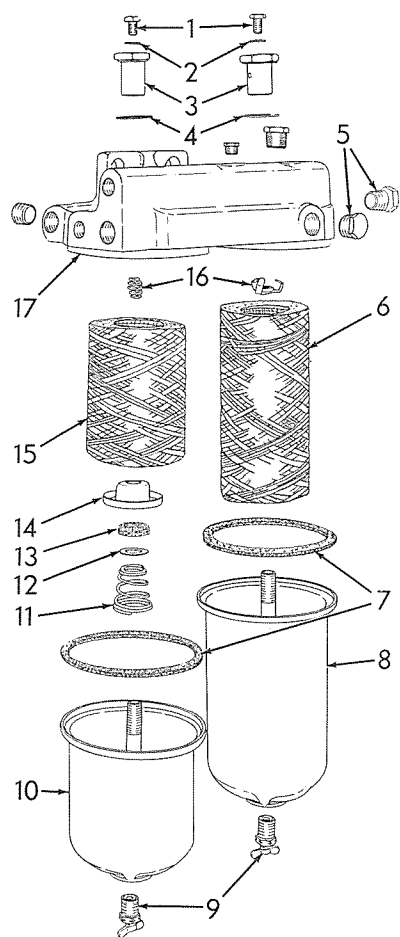

Fig. 5 — Fuel Filter Details
Loosen the vent screw (1) in top of second stage fuel filter shell retaining nut (2). Crank engine with starter. If a full flow of fuel is not obtained from around the loosened vent screw, a clogged or collapsed fuel line or a clogged first stage fuel filter element, Fig. 5 (6), is indicated. If this condition exists, remove and replace first stage fuel filter element or clean or replace the necessary fuel line.
A. FUEL FILTERS (Fig. 5)
1. SERVICE (Fig. 5)
2. FIRST STAGE FUEL FILTER ELEMENT REPLACEMENT (Fig. 5)
- a. Clean all dirt from around filter head (17) and shell (8). Loosen vent screw (1) and drain cock (9) and allow the filter shell to drain.
3. SECOND STAGE FUEL FILTER ELEMENT REPLACEMENT (Fig. 5)
- a. Clean all dirt from around filter head (17) and shell (10). Loosen vent screw (1) and drain cock (9) and allow filter shell to drain.
B. FUEL FILTER HEAD (Fig. 5)